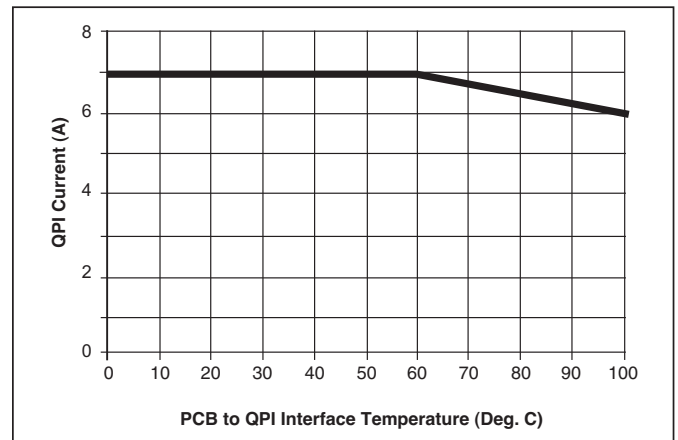

Figure 5 – QPI-4 current derating curve.
- -40° to +100°C PCB temperature (See Fig. 5)
Note 3: Refer to Figure 5 for current derating curve.
The current derating curve shown in Figure 5 should be used when the PCB temperature in close proximity of the QPI-4 exceeds 60°C. For example, the QPI-4 will support up to 6.5 A of current or 312 W from a 48 Vdc bus at an 80°C interface temperature. Temperature should be measured at the PCB interface to the QPI-4 on the Bus +/- pads or the QPI+/- pads. Refer to Figures 9, 10 & 12 for PCB layout recommendation.